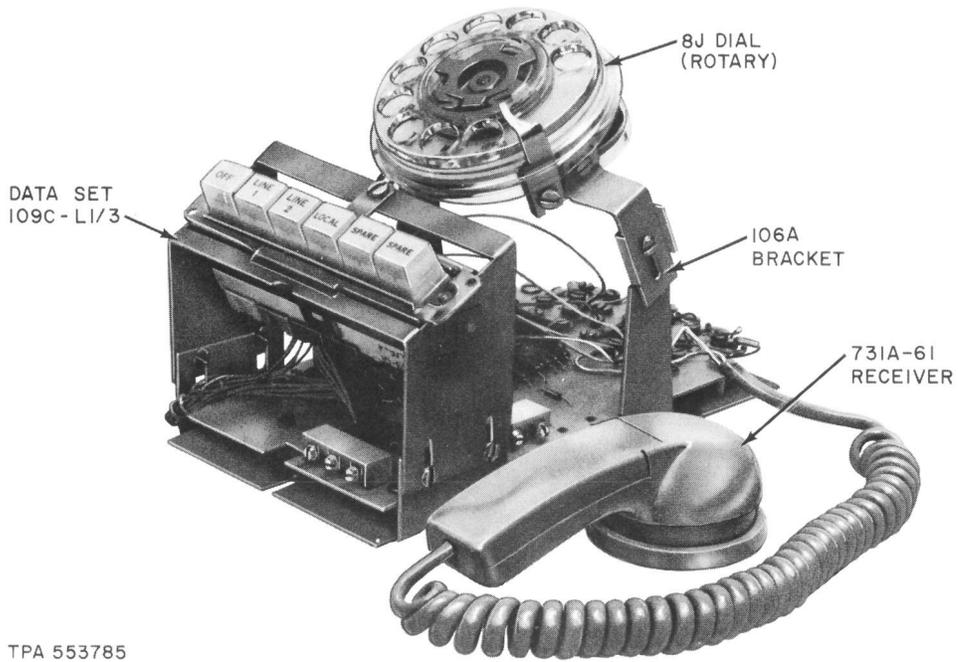

Fig. 4—Data Set 109C-L1/3
2.03 Data Set 109C-L1/3 (Fig. 4) consists of Data Set 109C-L1 with a rotary dial, a set of 106A brackets used to mount the dial to the
3.11 Data Set 109C-L1/3 includes Data Set 109C-L1, a rotary dial, and a receive-only handset. Functionally it provides the additional feature of Direct Distance Dialing (DDD) through the DATA-PHONE® interconnection arrangement using a 10B concentrator. See Fig. 4.